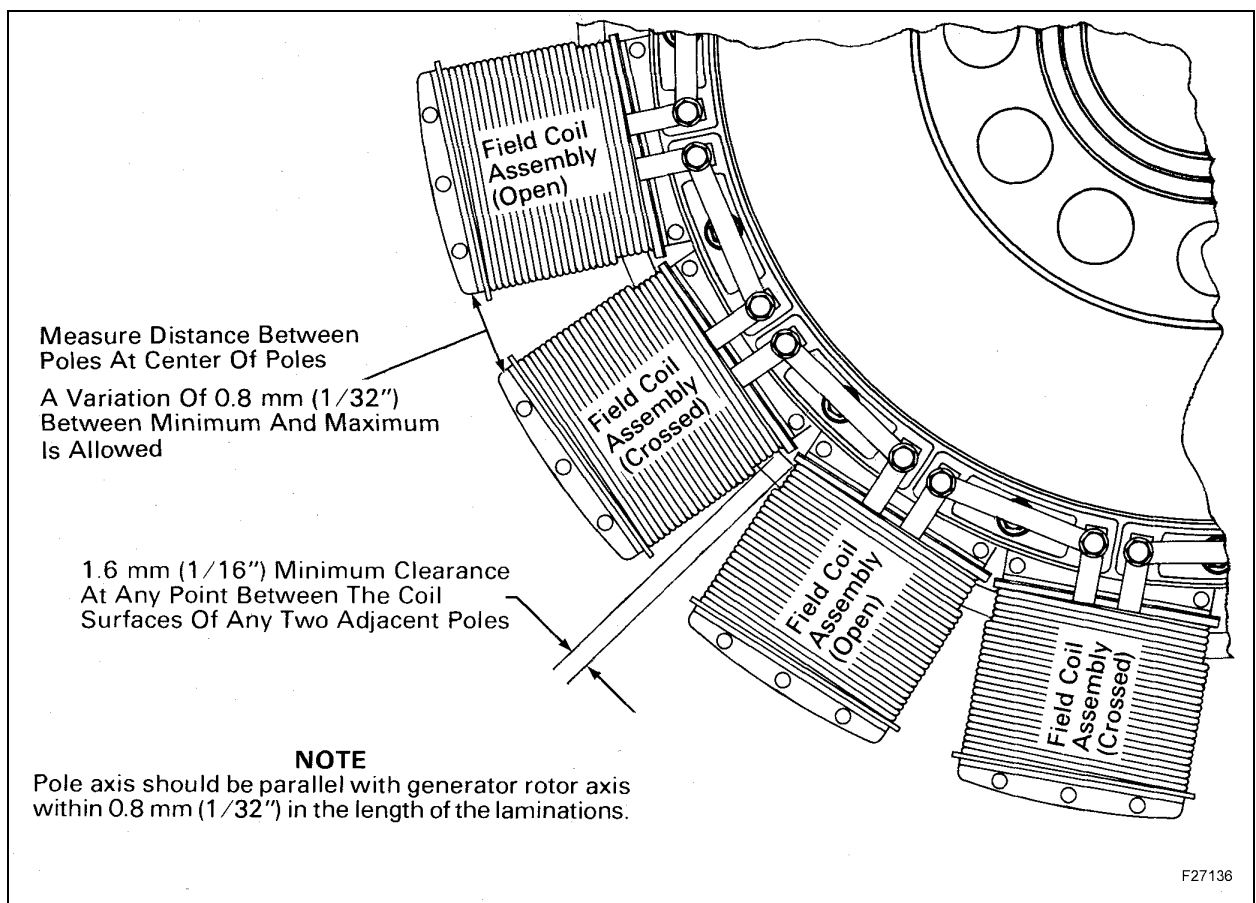

Fig. 14 – CA Type Alternator Rotor Pole Assembly
2. Install proper new pole assembly with new studs. There are eight open and eight crossed alternator field coil assemblies, Fig. 14. These field coil assemblies should be installed so no two like assemblies are adjacent.
4. Check poles for spacing and parallelism. Measure the distance between poles, on the sides of the laminations, half way between the brass end pieces. A variation of 0.8 mm (1/32") between maximum and minimum readings is allowed on this dimension. Pole axis should be parallel with the main rotor axis within 0.8 mm (1/32") in the length of the laminations. Maintain a 1.6-mm (1/16") clearance between the coil surfaces of any two adjacent poles. Refer to Fig. 14.